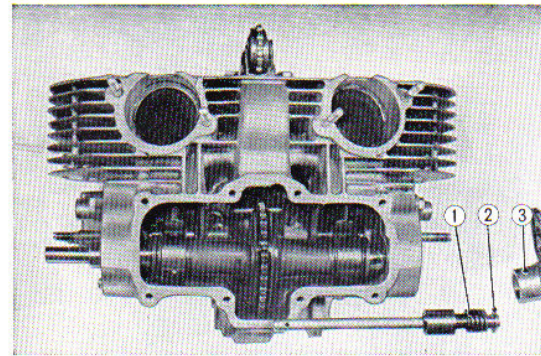

Fig. 3.36 Tachometer gear box, pinion and washer
3. Assemble the pinion on the tachometer gear box. Do not forget to install the washers. (Fig. 3.36)